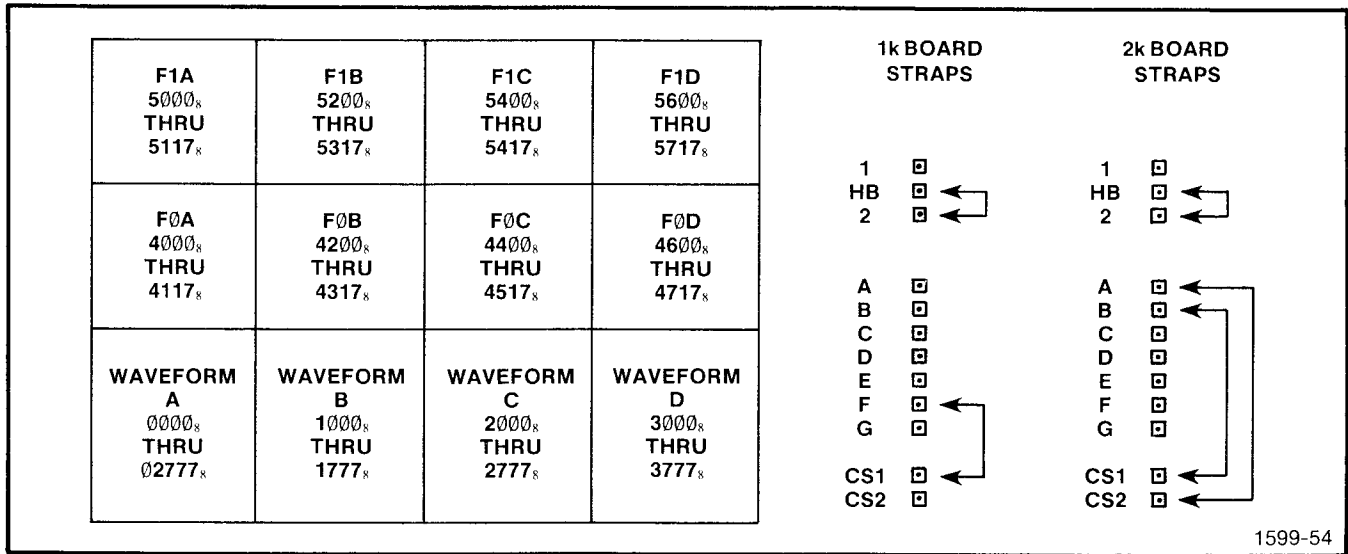

Fig. 3-10. 3 k Semiconductor Memory.
**3 k Semiconductor Memory.** The 3 k Semiconductor Memory consists of a 1 k and a 2 k Semiconductor Memory. This configuration will store four waveforms; however, there is only one message field for storing readout data and only one field for storing four, 80-character messages. Refer to Fig. 3-10 for strap location and address allocation.